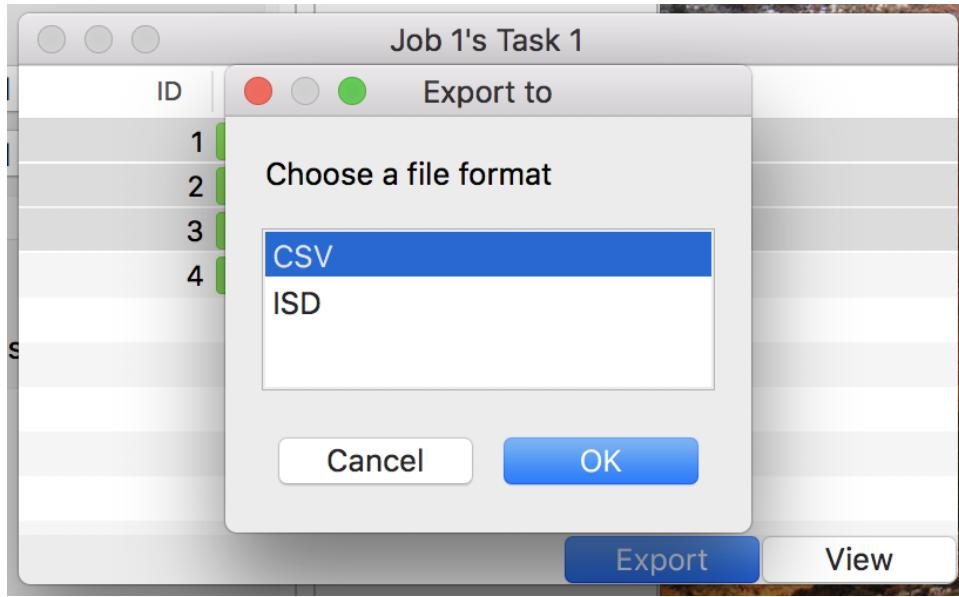

Figure 3.8: The dialog to save data.
4. Choose a target directory in the file dialog (see Fig. 3.8)